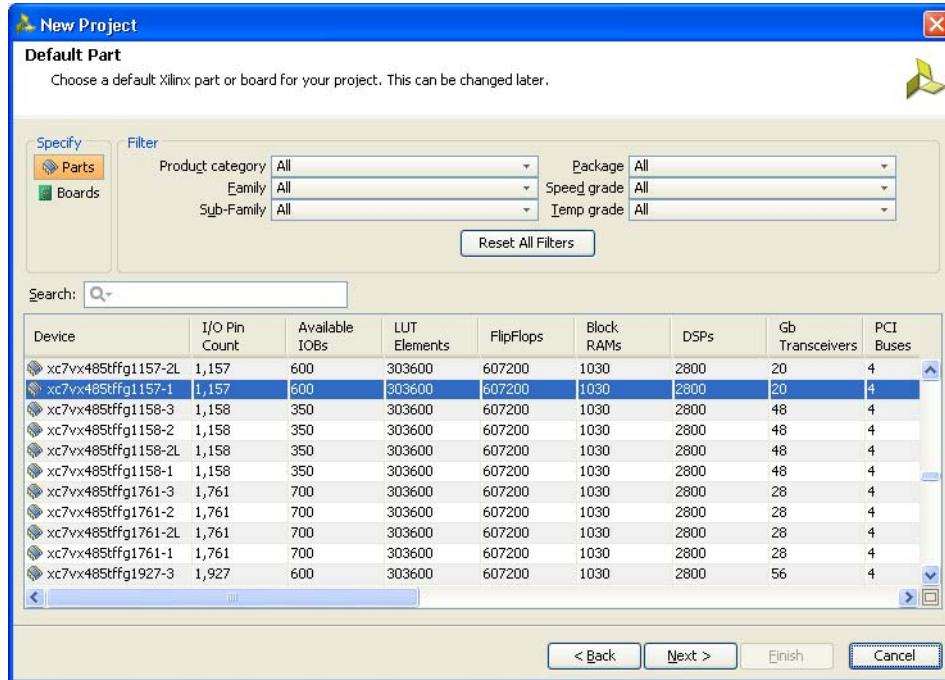

Figure 1-8: Default Part (Default Window)
- Click **Next** to proceed to the Default Part page (Figure 1-8) where the device that needs to be targeted can be selected. The default Part page appears as shown in Figure 1-8.